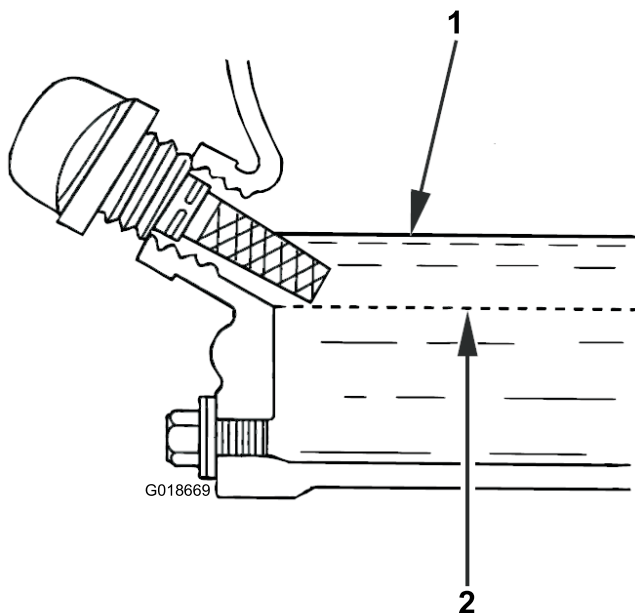

Figure 26
6. Remove the oil filler/dipstick from the filler port and look at the end of the dipstick. The oil level should be to the top of the upper limit range (Figure 26).